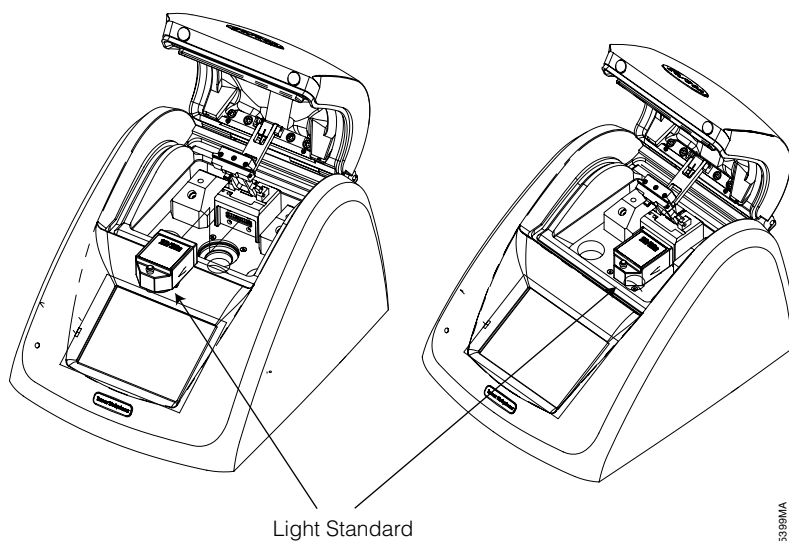

Figure 8. Inserting the Light Standard into the Sample Compartment.
3. Insert the Light Standard into the sample compartment (Figure 8).